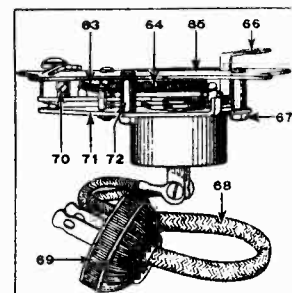

Fig. 4
- Set screw (No. 70, Fig. 4) located under brass plate on switch trip may be loose.
- One of the springs (No. 63 or No. 64, Fig. 4) on the brake may not be properly adjusted, or has become loosened.